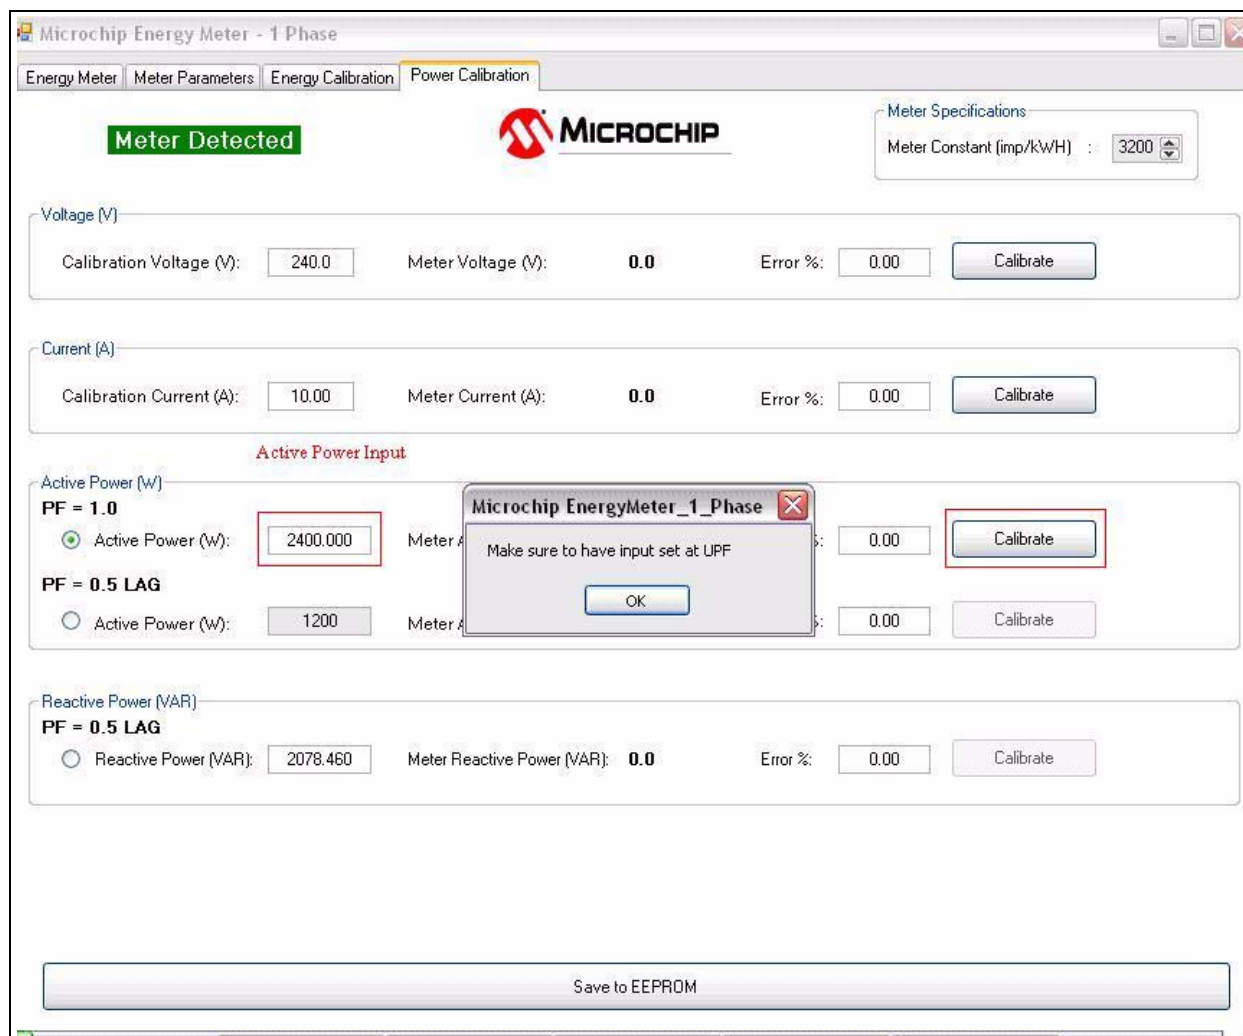

FIGURE 2-12: Active Power Phase 1 Calibration.
1. During Stage 1 at PF = 1.0 lag, the active power read by the reference meter is entered as an input, and the active power calibration Stage 1 is selected as shown in Figure 2-12.